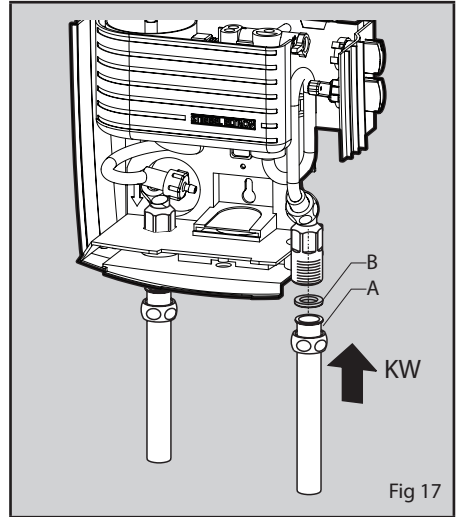

Fig 17
- Screw the joints on the unit (Fig 17/A) to the pipe (both hot and cold water), using a rubber leakage gasket (Fig 17/B) between the joints.